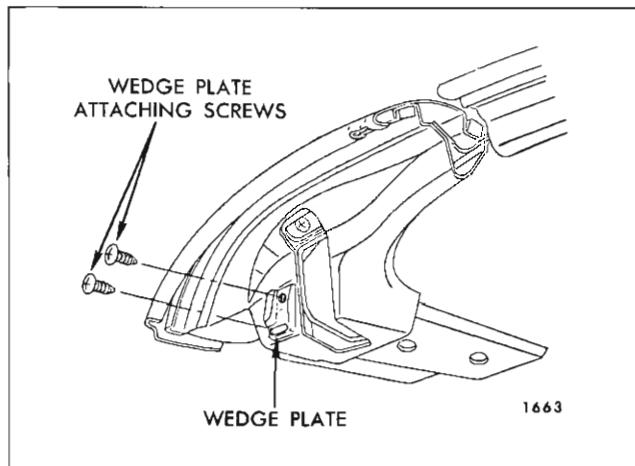

Fig. 2-I-54—Wedge Plate Installation
2. Loosen wedge plate inboard attaching screw. (Fig. 2I54).